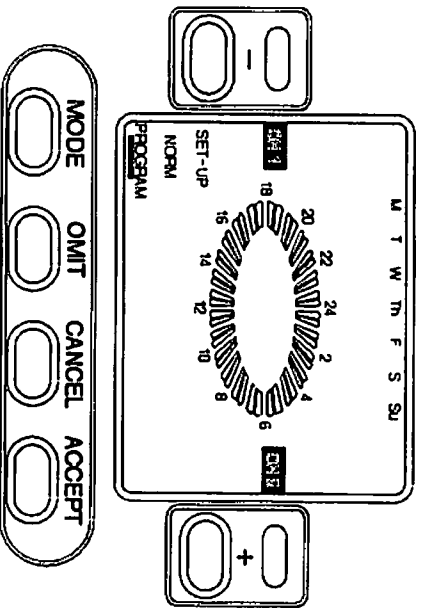

Fig. 8
- b. Press MODE button and repeat until PROGRAM is indicated on LCD. See Fig. 8, page 17.